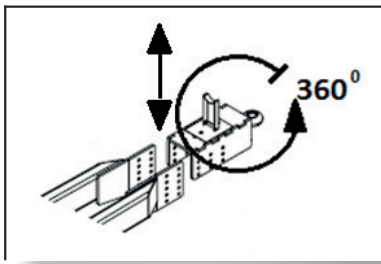

Figure 6- The Mixer-Feeder swivel hitch.
- Backing a tractor in reverse to connect an mixer feeder can be an easy and safe task. Figure 6 shows how to spot the hitch to the drawbar. The caption explains how “spotting” to the drawbar can create a hazard.
- The drawbar is adjustable vertically on all models and drawbar eye can be rotated 360° to allow for maximum adjustment. (Figure 6)